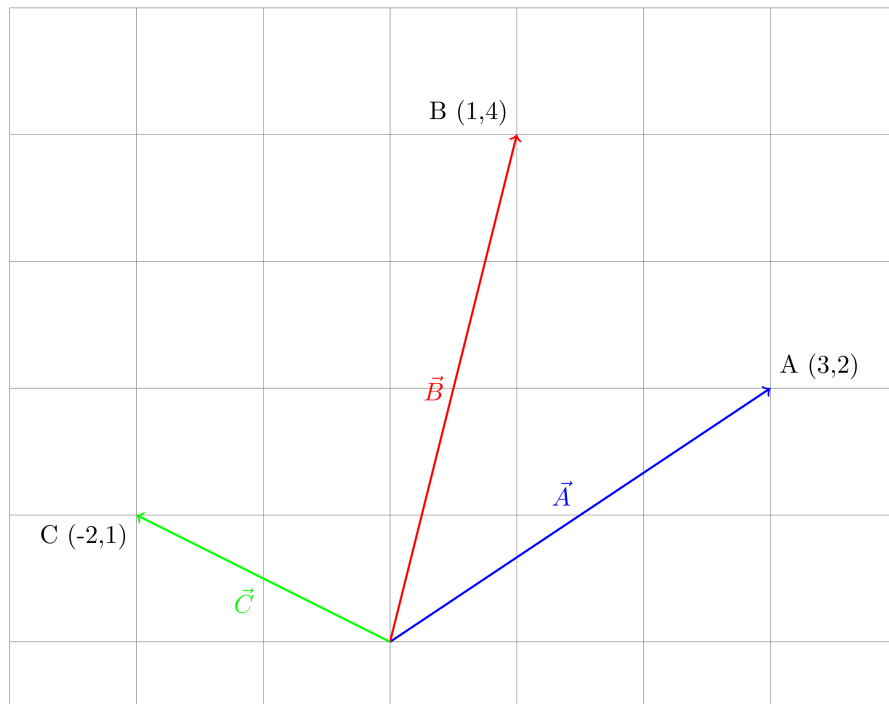

Figure 2.10: Vector Cartesian coordinates
**Example 2.5.** Given the space diagram in Figure 2.10, estimate the resultant vector using a graphical method.